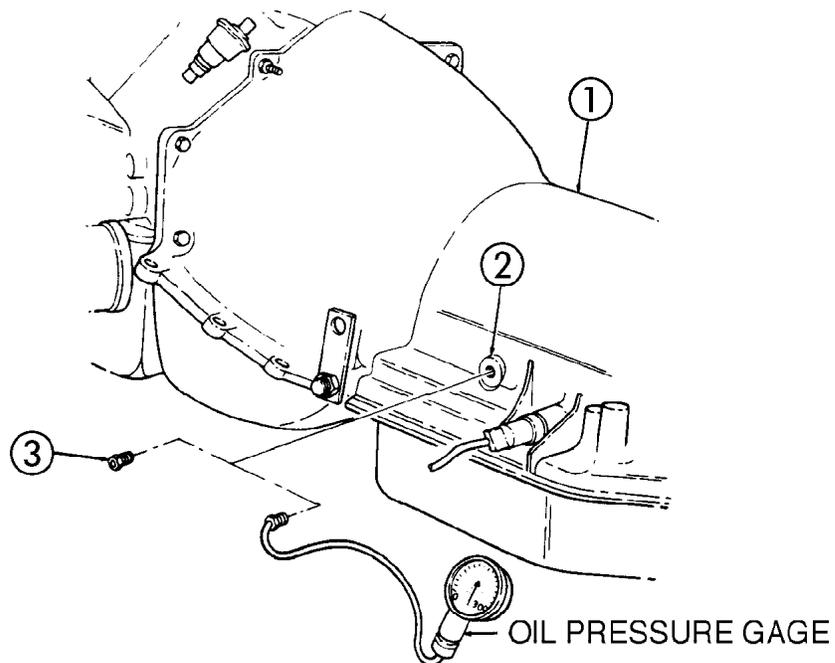

Figure 6-7. Transmission Oil Pressure Gage Removal.
C. TRANSMISSION CONTROL VALVE AND GOVERNOR PRESSURE TEST (Figure 6-7)